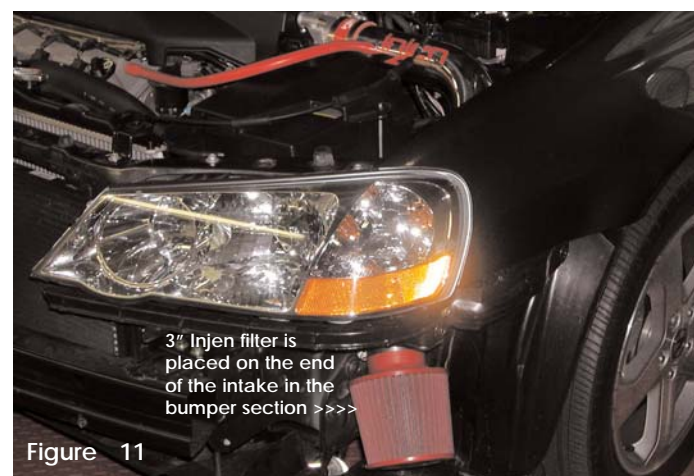

Figure 11
- 9 Place the 3" filter over the end of the intake located in the bumper section and tighten the clamp on the filter. (See fig. 11)